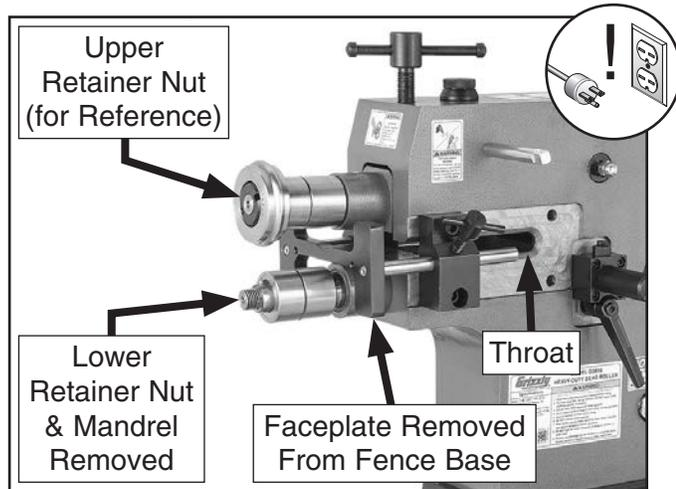

Figure 25. Lower mandrel and fence faceplate removed.
To roll curved or straight beads not parallel with a workpiece edge, you must first remove the fence and clamp blocks. This will open up the throat (see **Figure 25**), allowing room to maneuver your workpiece.
3. Use retainer nut spanner wrench to remove lower retainer nut, then remove lower mandrel (see **Figure 25**).
4. Remove faceplate (see **Figure 25**).